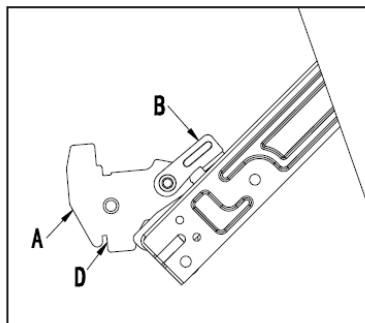

Fig 1
- › Open the door completely and lift the 2 levers "B" (Fig.1);
- › Choose which shelf to use with the telescopic runner. Paying attention to the direction in which the runner is to be extracted, position joint 'B' and joint 'C' on the frame (see Fig.1).